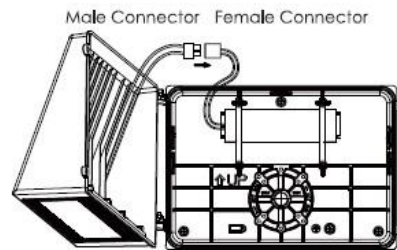

Fig8
Step 4. Attach the front cover to the rear housing and connect the male and female connectors (Fig8).